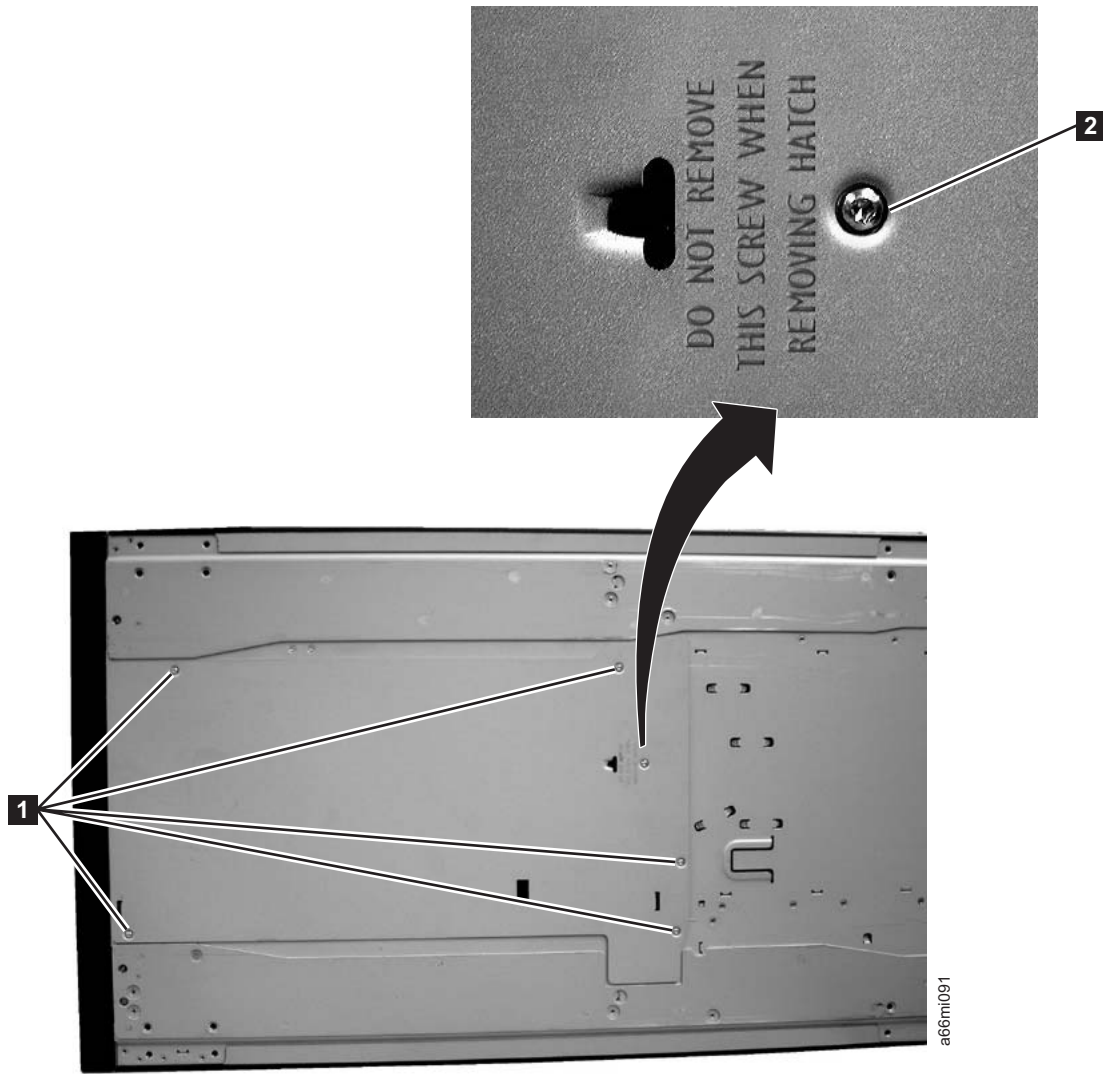

Figure 3-9. Bottom cover of the 5U control module
2. Turn the 5U control module on its side and remove the 5 - T10 Torx bottom cover screws (**1** in Figure 3-9 on page 3-9).
Important: DO NOT loosen or remove the screw holding the home sensor (**2** in Figure 3-9 on page 3-9). This screw has the same T10 Torx head as the cover screws, but it is longer and has a coarse thread for screwing into the plastic home sensor.